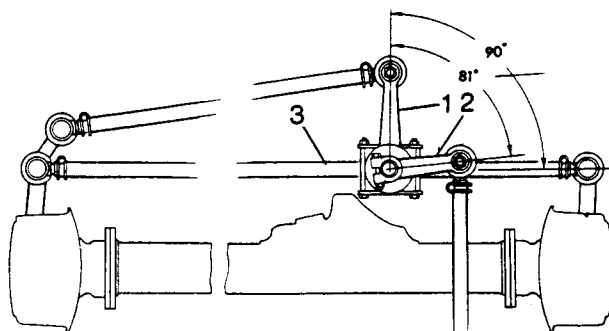

Fig L4.17
- (4) Refer to Fig L4.17. The angular relationship of the upper and lower relay levers should be 81 degrees. Check by setting the road wheels in the straight ahead position, at which point the relay lower lever (1) should be at 90 degrees to the track rod. The relay upper lever (2) should be inclined forward of the track rod, 9 degrees out of alignment with the track rod (3).